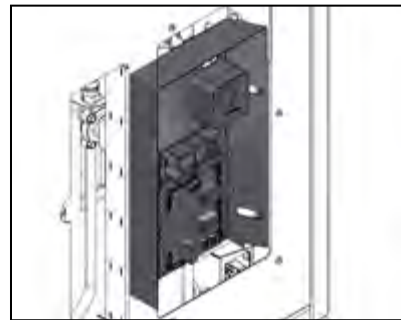

Figure 8-2: PCB housing screws
7. Slacken the two screws securing the PCB housing to the side panel. Refer to Figure 8-2.